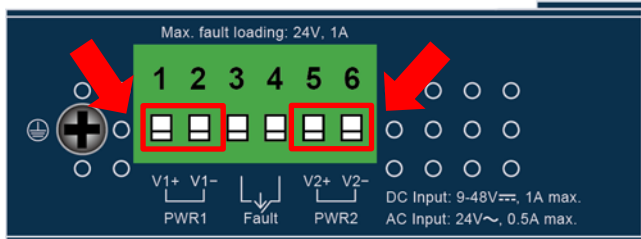

Figure 2-1-3 ICS-2100T/ICS-2105AT Upper Panel
1. Insert positive/negative DC power wires into **Contacts 1 and 2** for **Power 1**, or **Contacts 5 and 6** for **Power 2**. Figure 2-1-3 to 2-1-5 show PWR1 and PWR2 of the Industrial Serial Server.